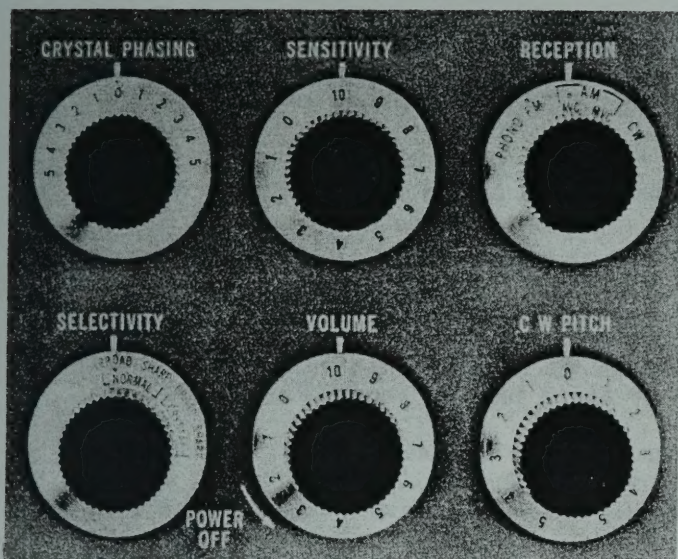

Figure 5. View showing six right hand controls
4. Set four of the six right-hand control knobs to the following positions: "SELECTIVITY" to red dot, "RECEPTION" to red dot, "SENSITIVITY" to 10, and "VOLUME" to 4 or the desired amount of volume. (See Fig. 5)